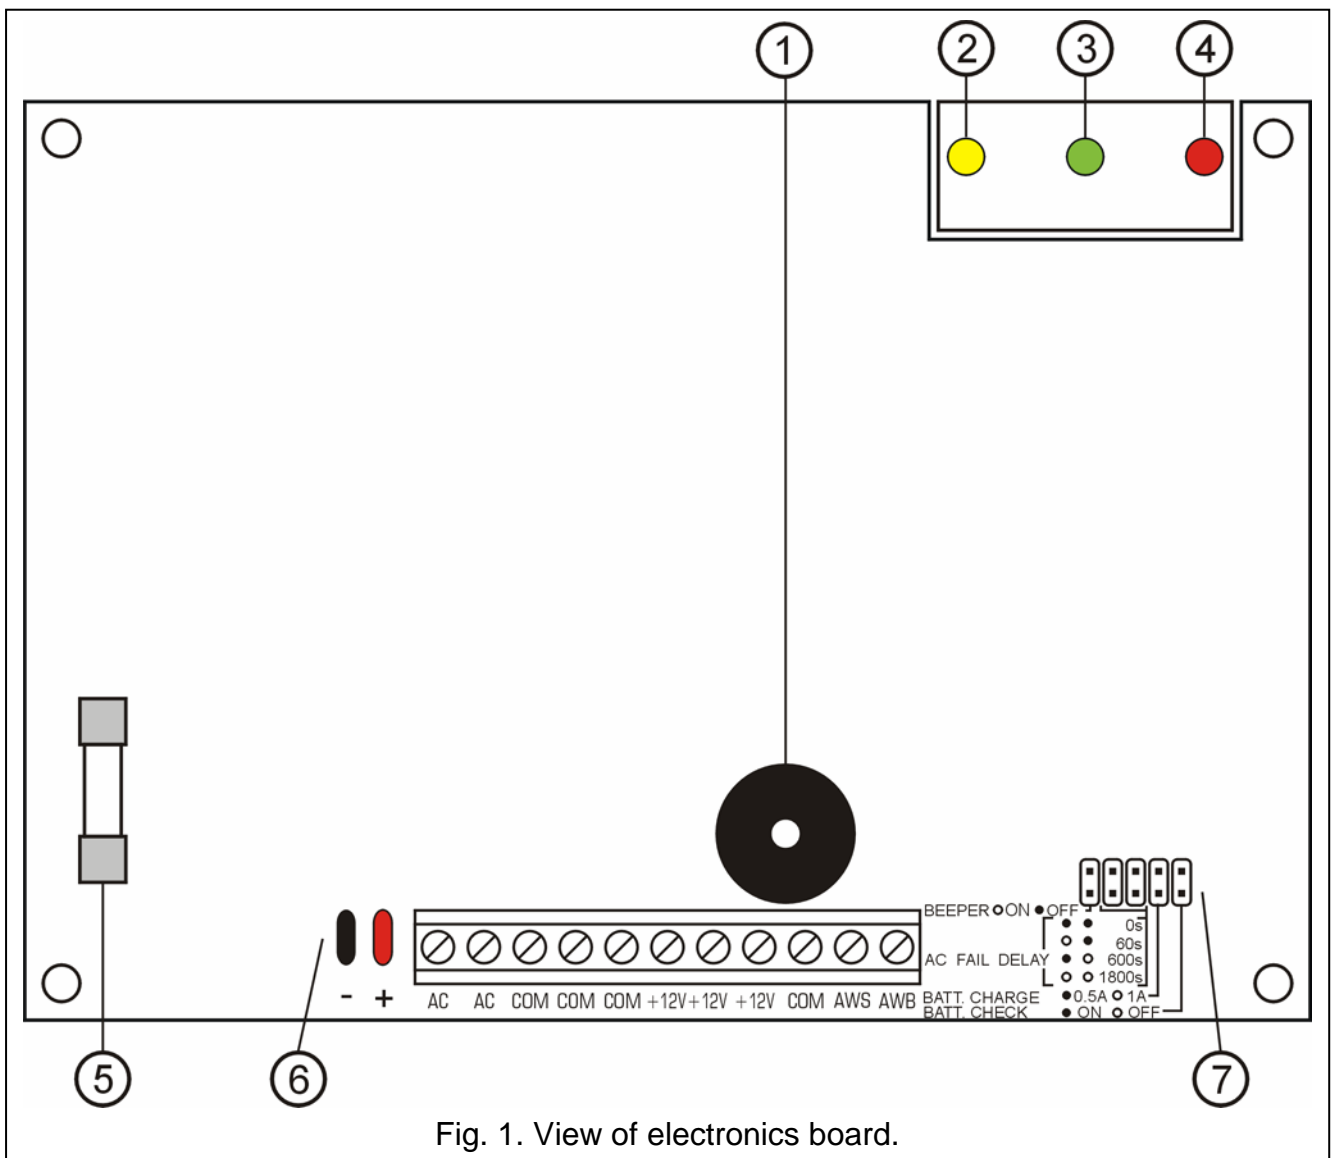

Fig. 1. View of electronics board.
Legend to Fig. 1:
5. Mount the board with electronics on the distance plugs, and, using screws, secure the board with LEDs to the housing cover (descriptions of LED indicators - see Legend to Fig. 1).